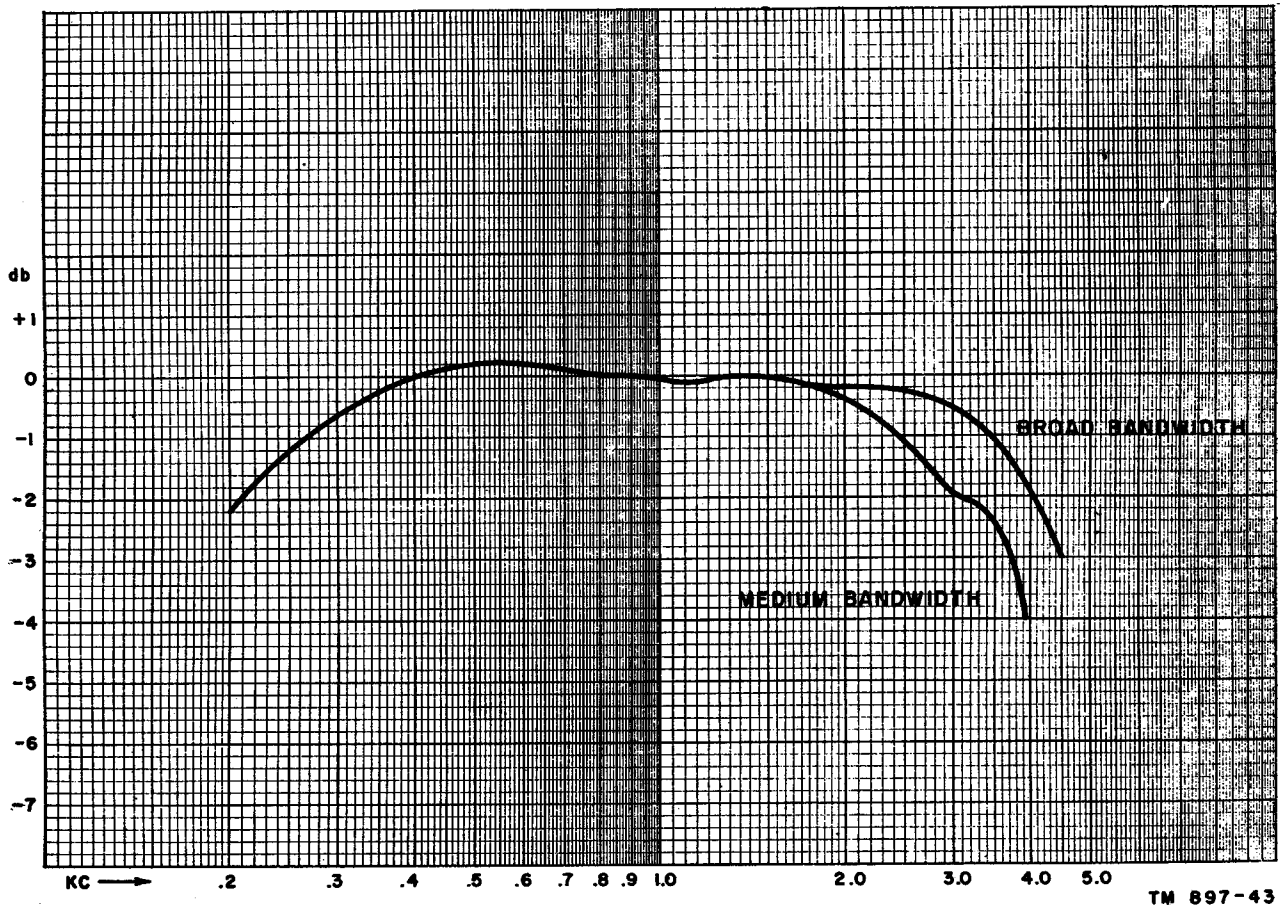

Figure 42. Typical a-f response curve.
b. Adjust the agc to give a 0-db indication on the output meter when the signal generator is modulated with 1,000 cps. Keep the percent of modulation of the signal generator constant at all other modulation frequencies. Apply different audio modulation frequencies at these points: 200 cps, 300 cps, and at 200 cps intervals to 4,000 cps to obtain an audio frequency response which conforms closely to the curves shown in figure 42.